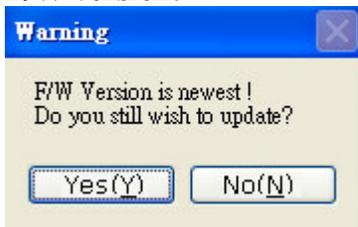
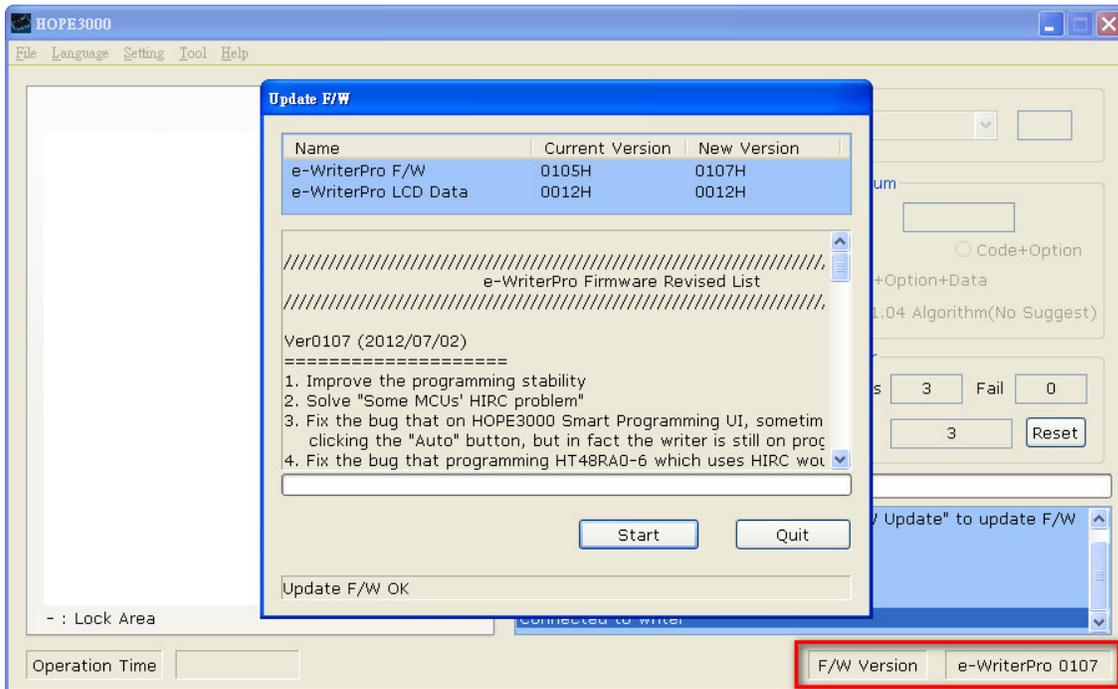

Fig. 2-22
Fig. 2-23
**※If the window as shown in Fig. 2-22 appears after clicking “Start”, it means that the F/W version is the same or it has a newer version than the one in the HOPE3000. It is recommended to click “No” so as not to update the F/W otherwise it will update to an older F/W version.**
If the update is successful then the F/W update window will display “Update F/W OK” as shown in Fig. 2-22. Then the HOPE3000 will power on the writer automatically and after the writer is connected, the updated F/W will be shown on the right lower corner as shown in Fig. 2-23.